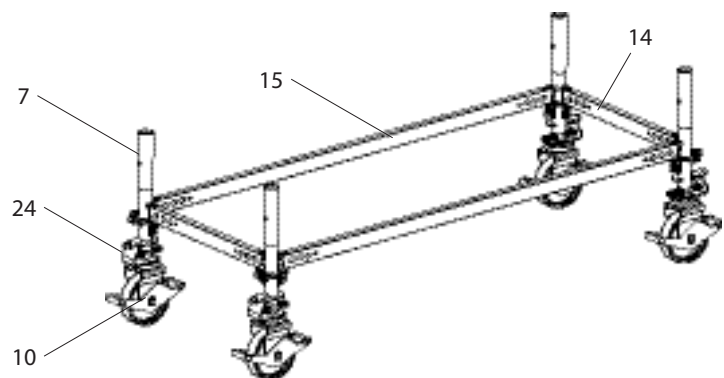

Fig. A4.01
1. Assemble the base standards (7) with horizontal ledgers (14 + 15) to form a frame.
2. Raise the frame and insert the castors (10) into the base standards.
3. Secure the castors with spindle locking (24) to prevent them from falling out. (Fig. A4.01)